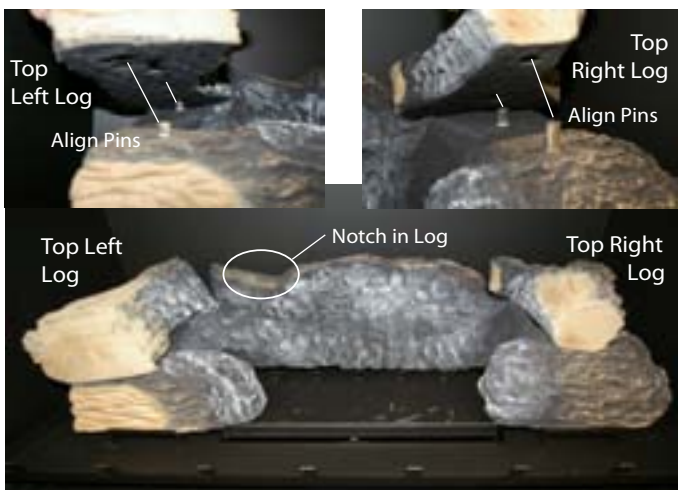

Figure 10c. Top Left / Right Log.
**Step 4.** Place the Top Right log as shown in **figure 10c**. using the (4) four alignment pins protruding from the top of the Right and Left Bottom Logs, as shown in **figure 10c**. With these pins align the Top Right and Left logs using the predetermined alignment holes cast into the underside of the logs, as shown above, **figure 10d**.
**Step 5.** Place the Centre Front log, **Figure 10d** below, as shown using the notch cast in the Bottom Rear log as shown in **figure 10c** above.